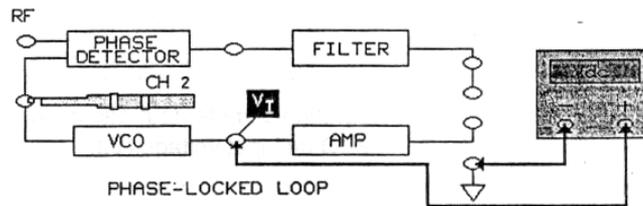

Figure 7-5.
1. You will first determine the VCO's free-running frequency. **Do not insert** a two-post connector between the FILTER and AMP in the PHASE-LOCKED LOOP circuit block just yet. Set oscilloscope CH2 to 200 mV/DIV, and set the sweep to 0.5 μ S/DIV. Connect the CH2 probe to the VCO output, and trigger on CH2. Connect the voltmeter to the VCO input, and connect the voltmeter common lead to a ground terminal on the circuit board (See Figure 7-5.)